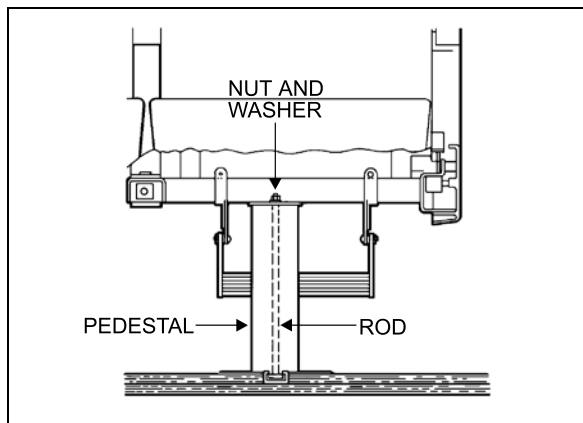

FIGURE 84: SEAT PEDESTAL ASSEMBLY
5. Remove 2 nuts and washers holding seat frame to pedestal rods. See Figure 84.